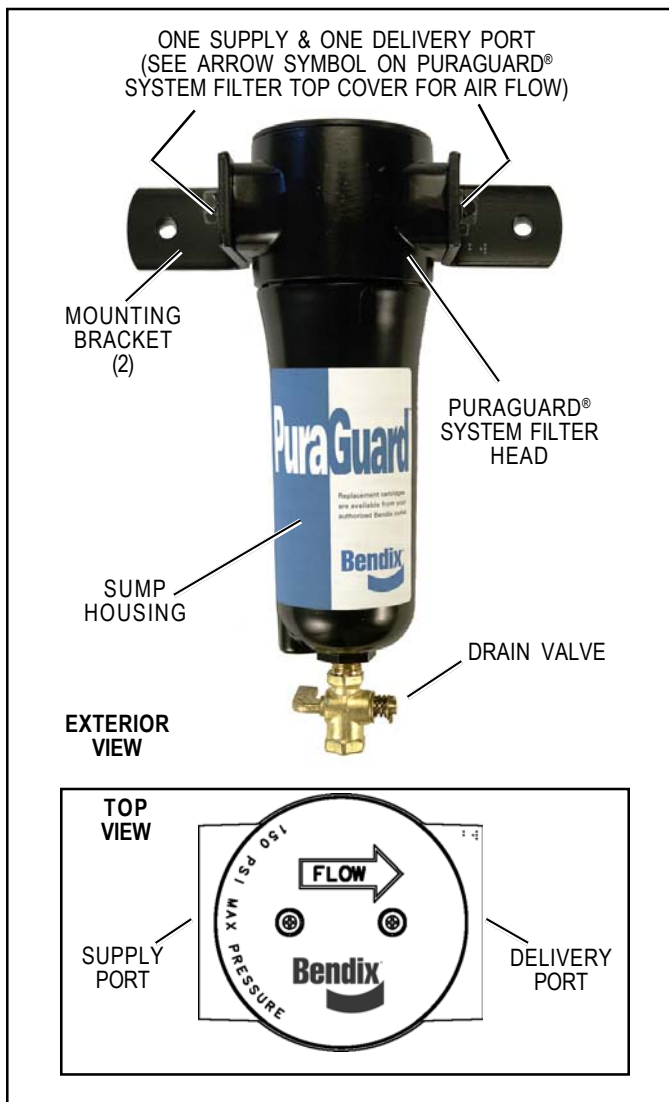

FIGURE 1 - PURAGUARD® SYSTEM FILTER
The *PuraGuard*® system filter has two female pipe thread air connections: one supply, one delivery — identified by their relationship to the arrow symbol showing air flow on the *PuraGuard*® system filter top cover (see Figure 1).
3. The head cover of the *PuraGuard*® system filter has an arrow symbol showing the direction that the air must be supplied into the head (see Figure 1). Align the *PuraGuard*® system filter correctly (the label may not be facing outwards) and then insert the four bolts through the mounting bracket holes into the *PuraGuard*® system filter head. Tighten to approx. 15 ft. lbs.